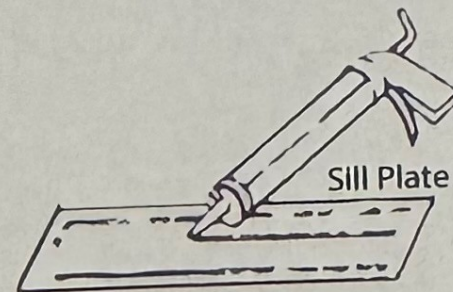

Figure 4.
4. Lay a bead of latex adhesive around the perimeter of the sill plate area, $3/4''$ from all four edges, with an additional strip lengthwise along the middle as shown in Figure 4. Press the cut window sill firmly in place.